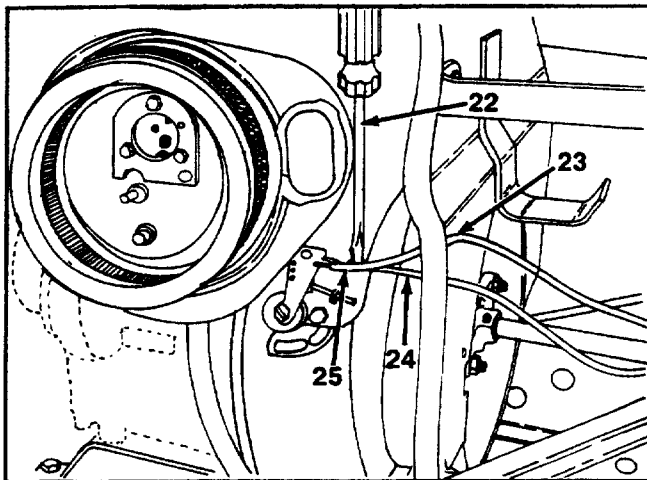

FIGURE 14.
15. With the air cleaner removed, access to the casing clamp, holding the throttle and choke control cables; can now be removed. Using a screwdriver, disconnect the throttle and choke control cables. See figure 14.